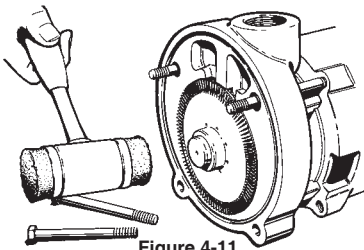

Figure 4-11
4. Remove the impeller(#11), refer to Figure 4-11. This is easily done by setting the motor on end. The impeller is a slip fit and under normal conditions, can be removed by hand or by gently tapping on the end of the shaft with a mallet. Striking the shaft too hard could damage the seat, rotating element, or the motor. After